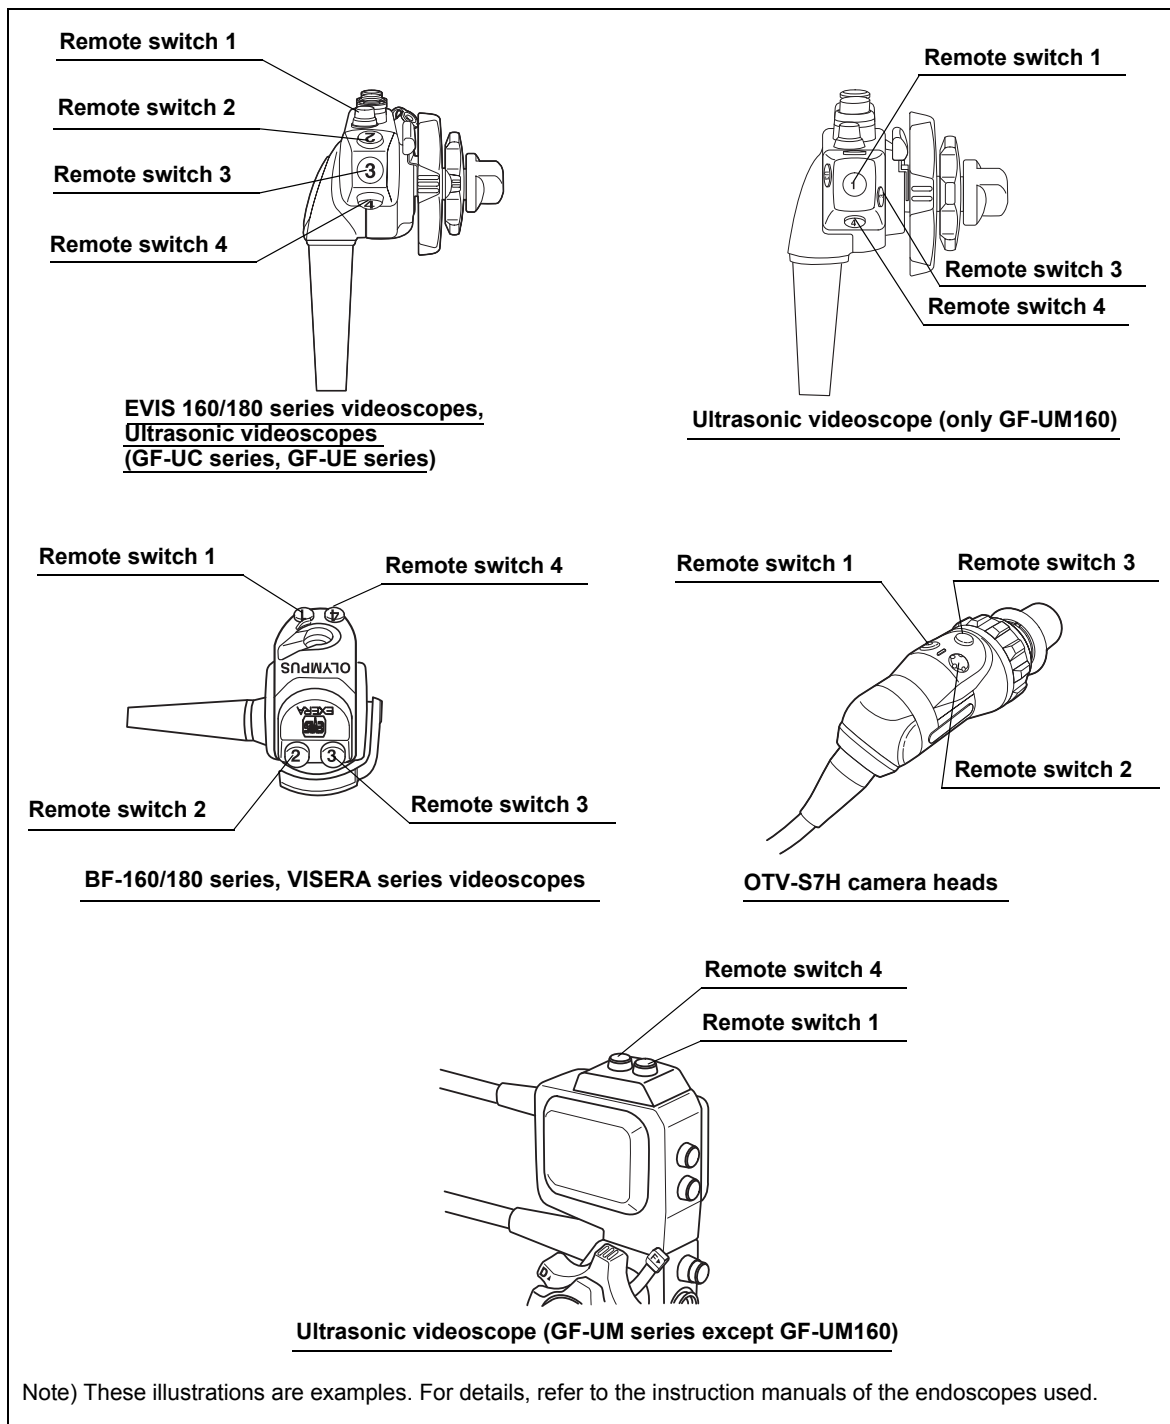

Figure 9.17
- The positions and shapes of the scope switches are different depending on the endoscope model as shown in Figure 9.17. For details, refer to the instruction manual of the endoscope.